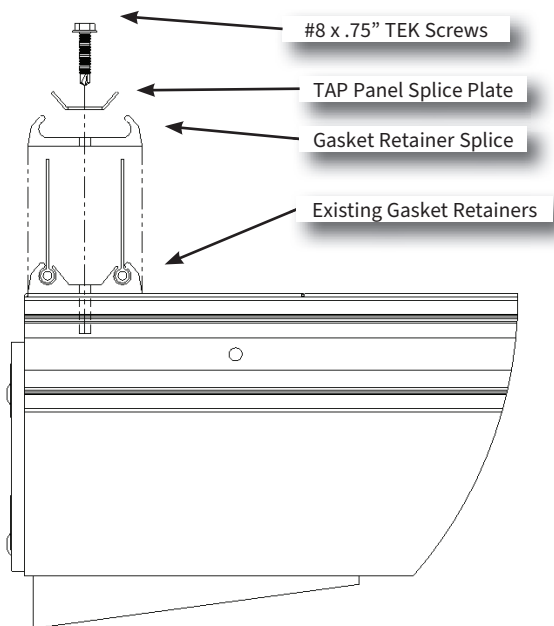

Figure 19: Panel Splice Plate Detail
- 7 Slip gasket retainer splice under gaskets into gap between existing gasket retainers. Align sides of gasket retainer splice with sides of existing gasket retainers (Figures 19 & 20). Beads of gaskets should fit inside profile of gasket retainer splice.